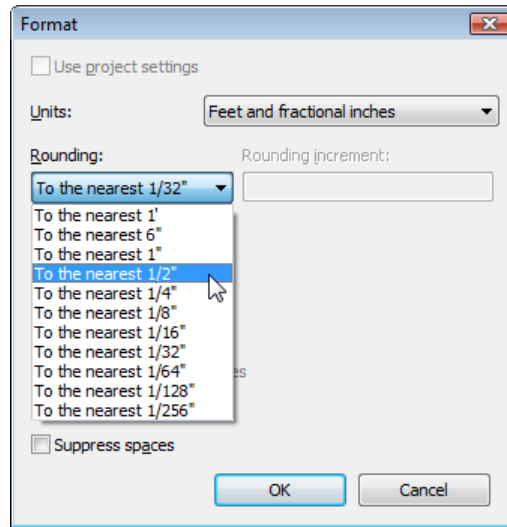

Figure 2-37 Selecting the *To the nearest 1/2"* option in the **Format** dialog box
4. Click on the **Rounding** drop-down list in this dialog box and select the required option, as shown in Figure 2-37.